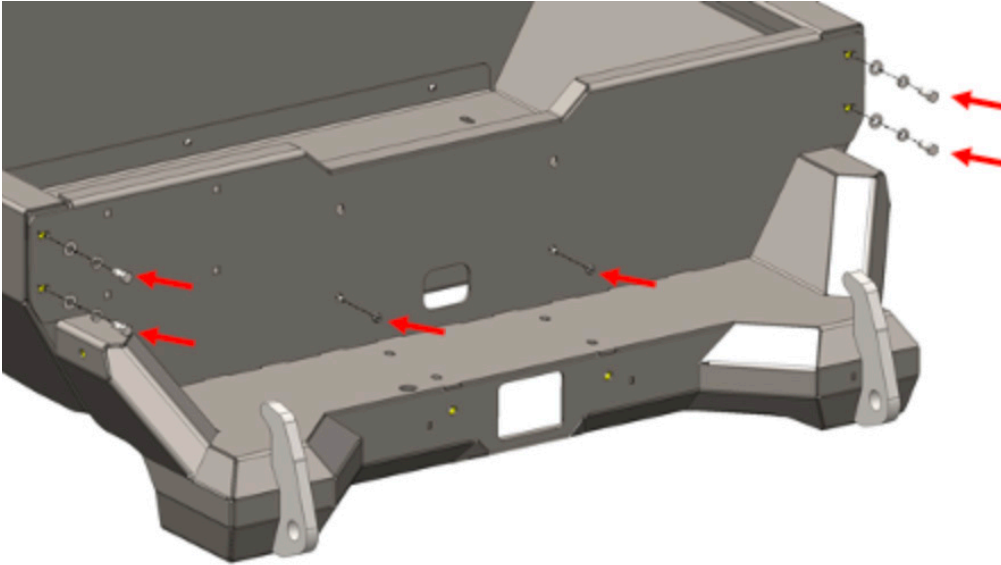

Figure 12.
14. Fasten the top of the bumper (22782) using four (4) 3/8" hex head bolts with flat/lock washers. Use two (2) M6 button head bolts with flange nuts to fasten the bed pan to the rear bumper. Figure 12.